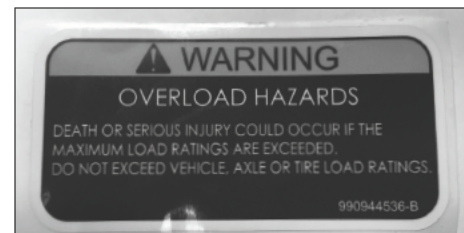

Figure 2 – Overload Hazards Placard
5. Inspect the vehicle to see if an Overload Hazards placard, part number 990944536, is installed above each rear wheel well (refer to Figure 2). If these placards are not installed, contact Altec by calling 1-877-GO ALTEC (1-877-462-5832), prompt 1, to order two of these placards. Install one placard above each rear wheel well.